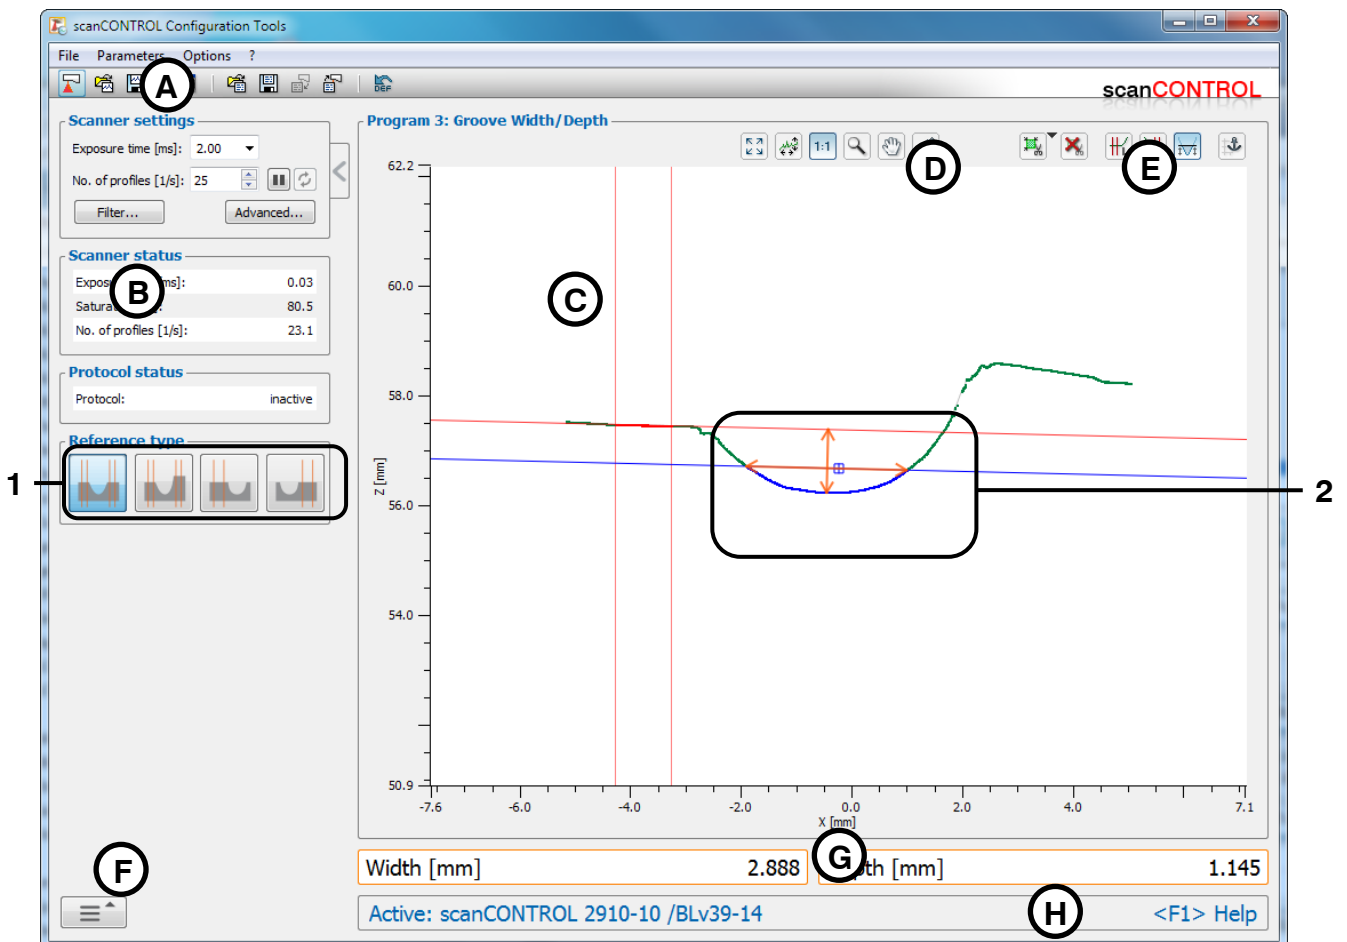

Fig. 4.33: "Groove Width/Depth" measuring program
- Define the type of the deepening (see Fig. 4.33 and Chapter 3.13.1):